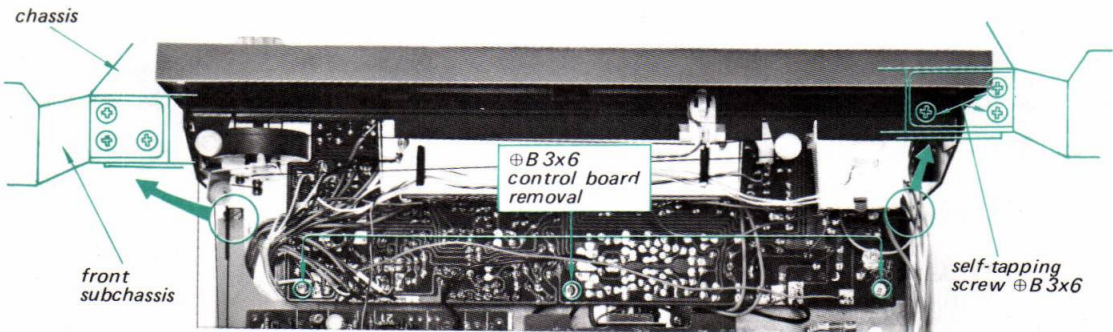

Fig. 2-16. Front subchassis removal (1)
1. Remove the three screws securing the control board to the chassis as shown in Fig. 2-16.
2. Remove the three self-tapping screws at each side of front subchassis securing it to the chassis as shown in Fig. 2-16.